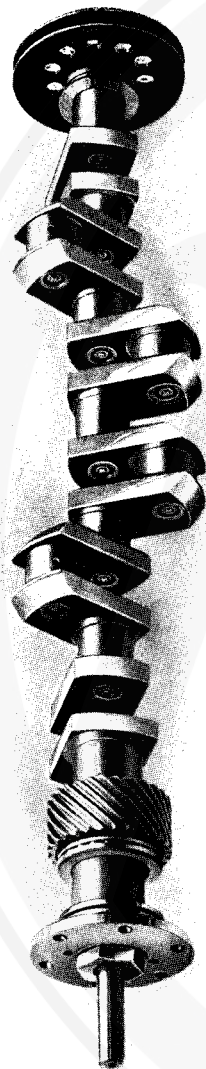

Fig. 3. 21-h p. Crankshaft.
*The Crankshaft* Fig. 3 is of exceptionally robust design, its six throws being supported by a bearing between each pair. There are eight bearings in all, the main bearing nearest the flywheel being divided to accommodate the cam transmission worm which runs in an oil bath. The crank is of hollow formation, the shaft and crank pins being bored to effect a saving in weight ; suitable oil conduits are drilled for the distribution of oil which is pressure fed. The main bearings are of special anti-friction metal.